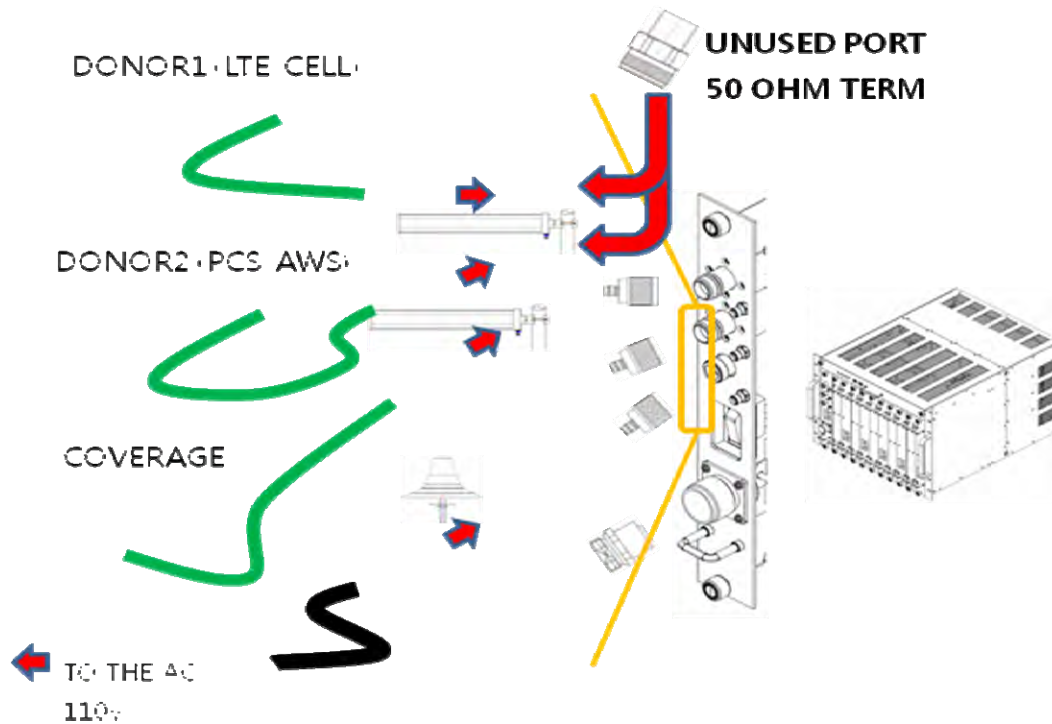

Figure 9 Cable Connection (Front of Shelf)
2. Confirm the names of the connectors on the front panel as shown in Figure 9.